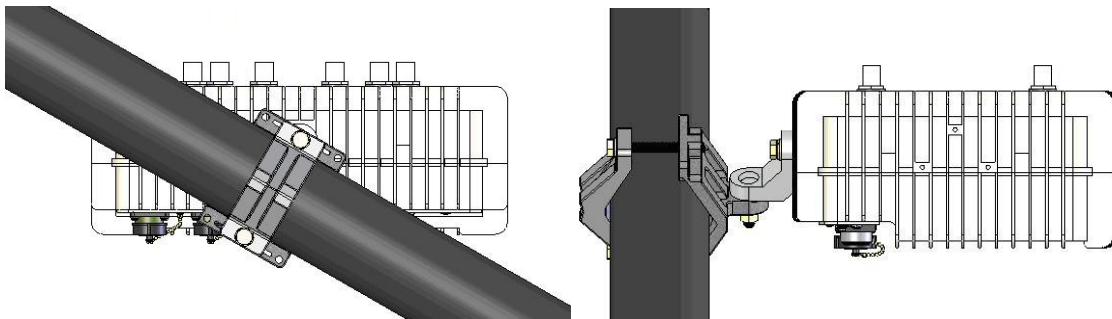

Figure 5: Aligning the WLP
2. Once the WLP unit is mounted, release the bolts slightly and align the WLP unit horizontally using the level, as shown in Figure 5. When the unit is perfectly aligned, firmly close all bolts, applying 120 inch-lbs of torque.